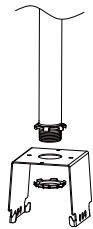

Figure2
- Step1. Mount the bracket on 3/4"NPT (Figure 2);